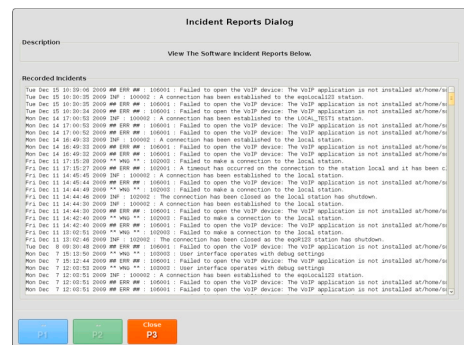

Fig. 42: "Incident Report" dialog
- In the "Diagnostics" menu navigate to the "Incident Report" menu item and select it by pressing **P1**. The "Incident Report" dialog is displayed (see Fig. 42).